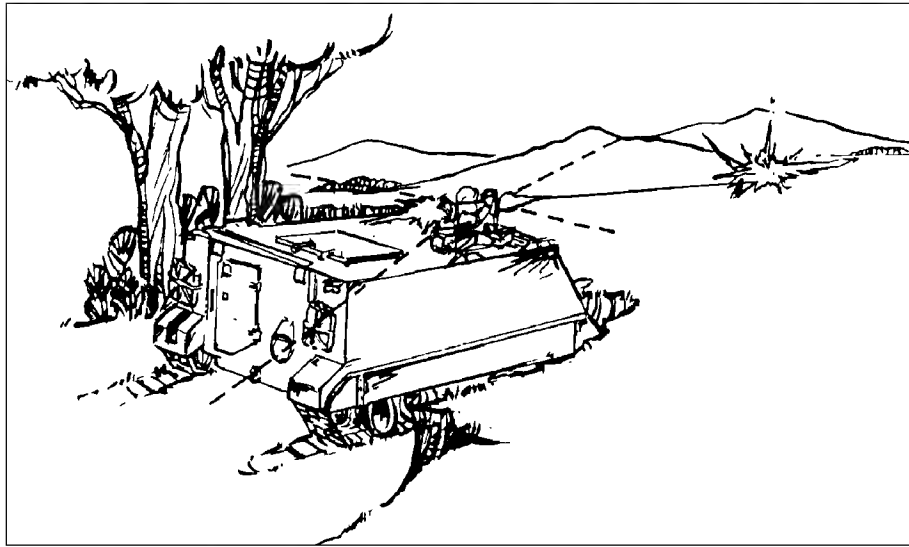

Figure E-1. Firing the Dragon from an M113 APC.
- a. The best way to fire the Dragon from a stationary M113 APC in a hull-defilade position is to use the M175 mount (Figure E-1), though field-expedient methods can be used.